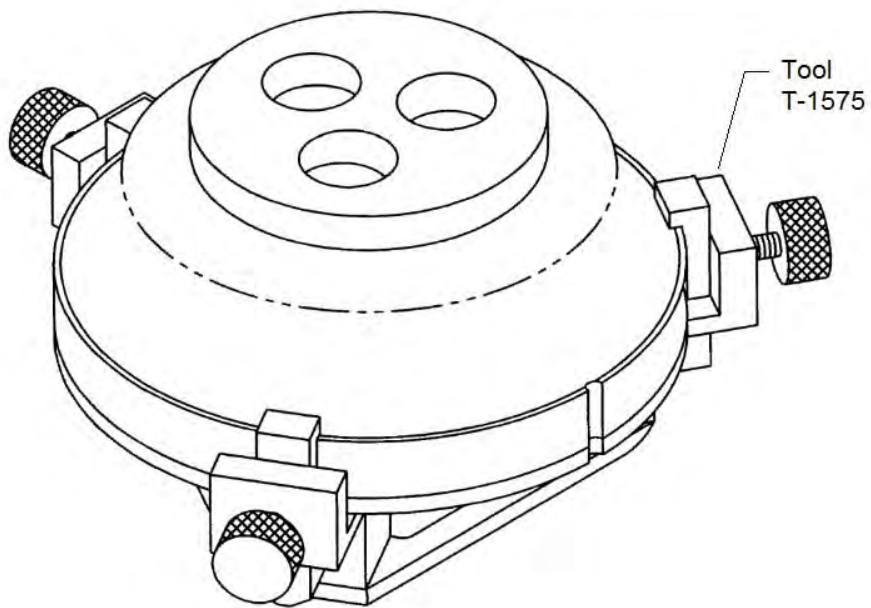

Figure 12-16. Installation of Swashplate Rigging Tool T-1575
2. Install swashplate centering tools T-1575 to hold the swashplate perpendicular to the main rotor shaft (Figure 12-16).